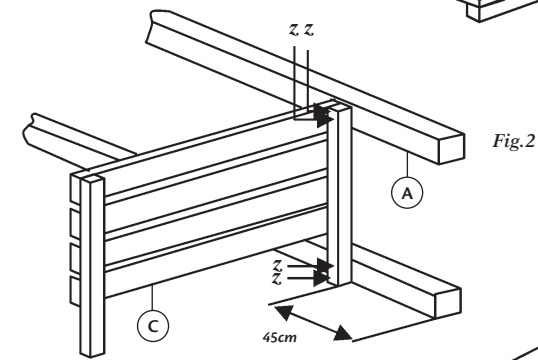

Fig.2
Position the Seat (C) as shown in Fig.2 and fix it to the side section using screws [z].